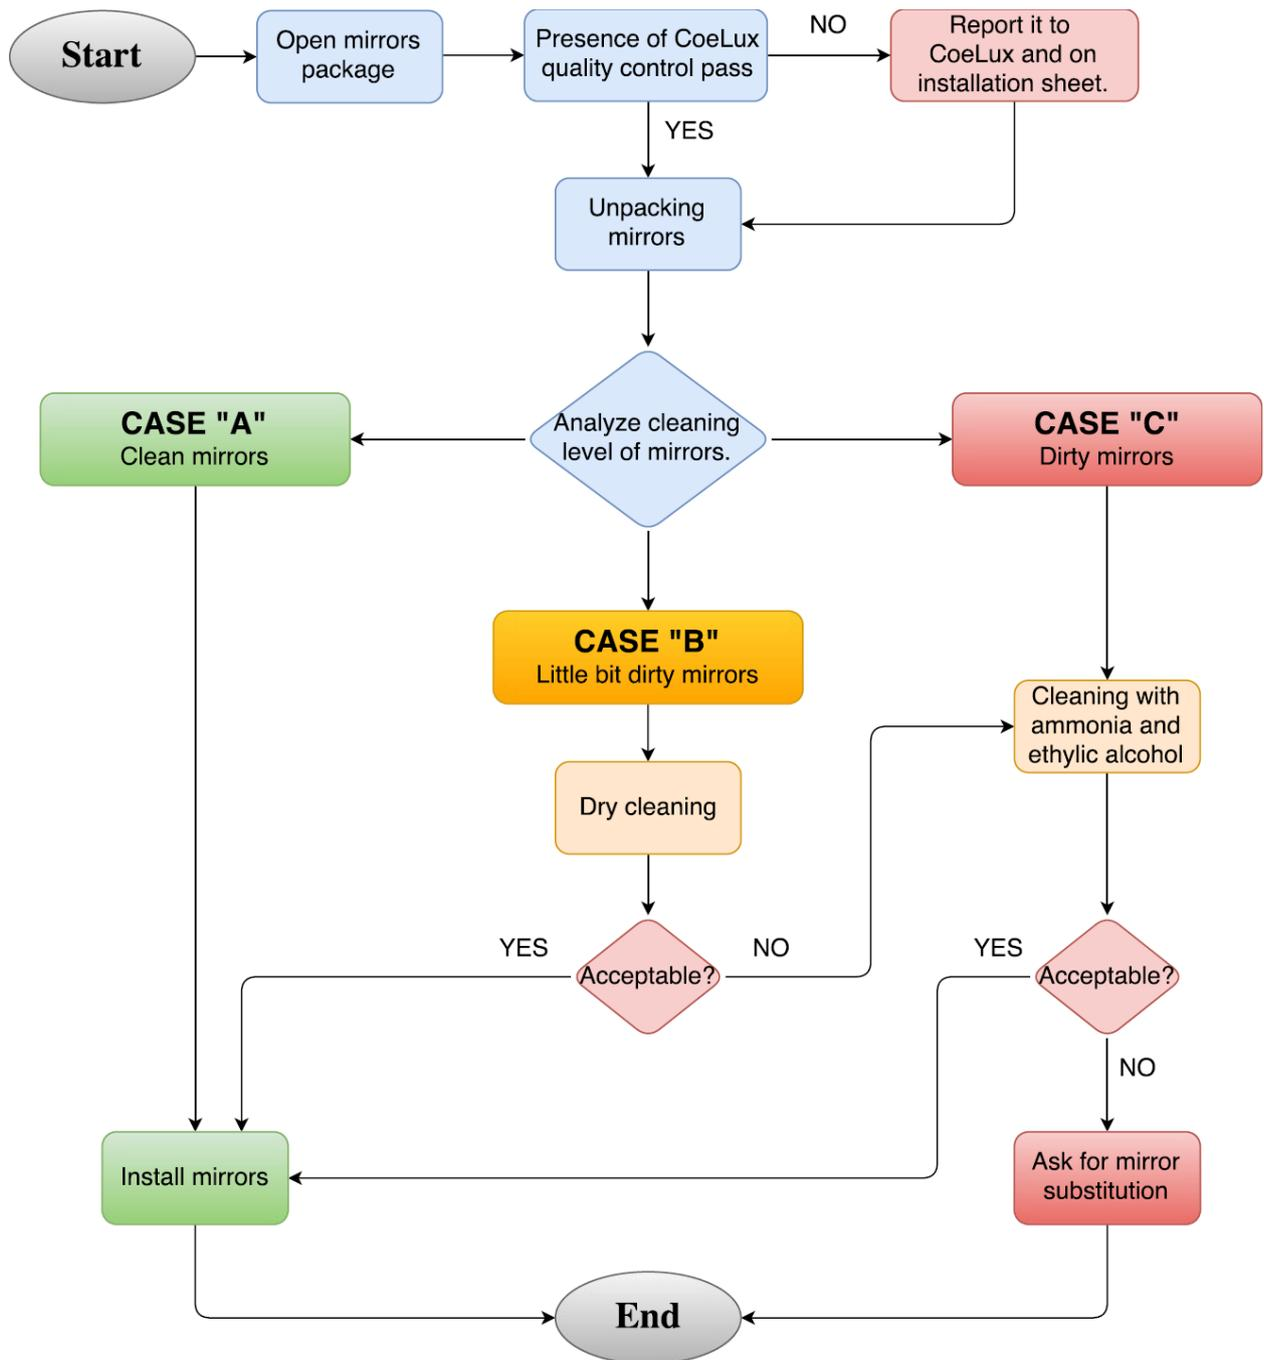

Fig. 5 *Flow chart analysis and extraordinary cleaning procedure of mirrors*
- 2 Insert the bottom panels [4] and [5] (listed PN 73-00055-01 and 73-00053-01) everything inside the tubes is shown in figure 5 and fix them to the tubes connected to the M4 self-threading screws supplied. The horizontal profile of the panel [5] (red detail in figure 5) must be in line with the horizontal ones of the side panels (red detail in figure 5).